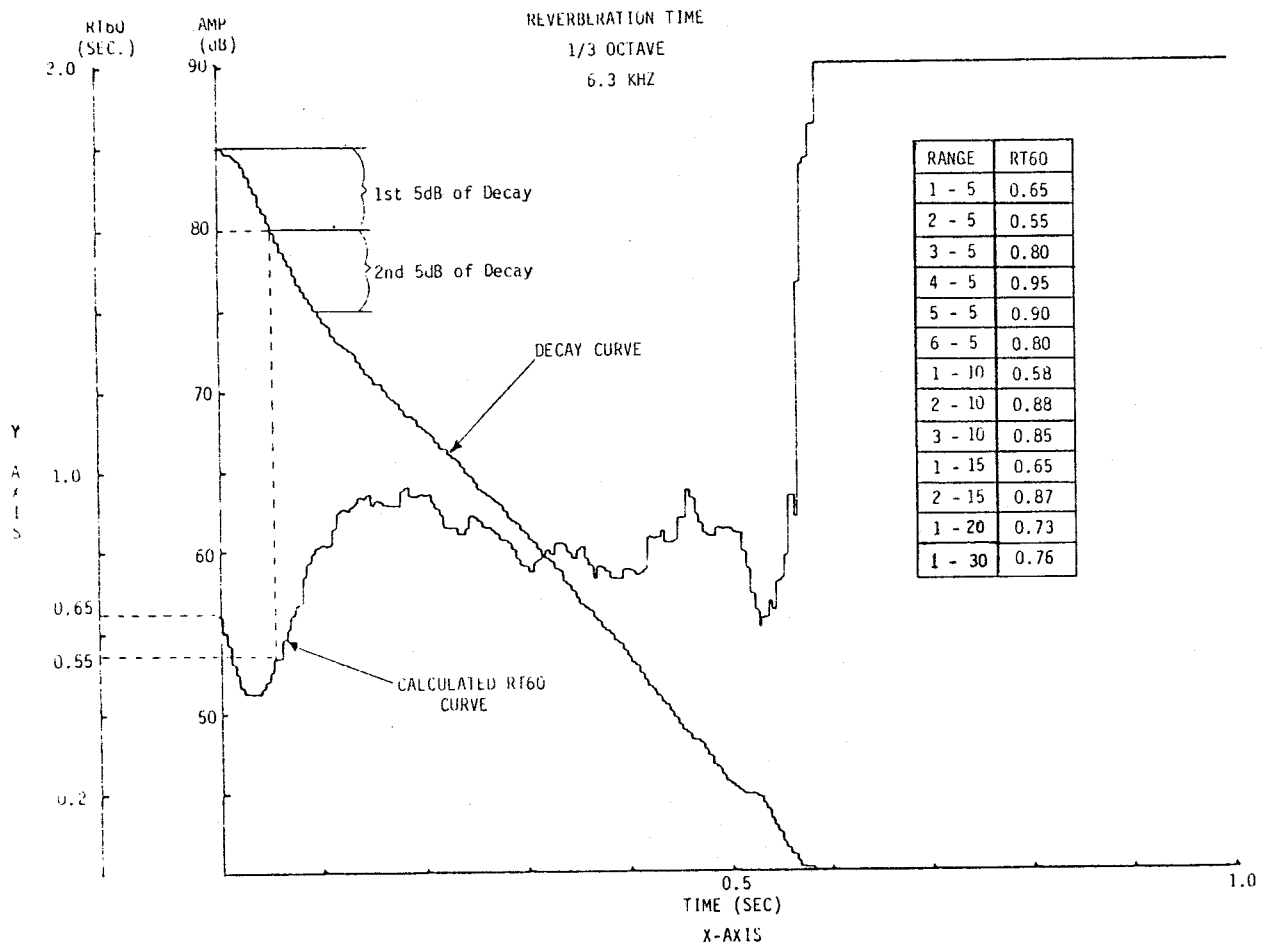

Figure 19
Labeling the plot, and interpreting the data deserves some discussion. In Figure 19 below is represented a typical RT60 plot with the axes labeled:
3. The IE-17A DATA WINDOW can give us data concerning the calculated RT60 for several segments of the decay curve. The table in Figure 19 presents the information available from the DATA WINDOW. The plotted decay and RT60 curves allow us to greatly expand the available data. If we choose any point along the decay curve, we can determine the calculated RT60 for the 5dB increment of the decay curve beginning at the point we have selected.
For example, if we choose the point on the decay curve where the decay curve intersects the Y-axis, we can determine the calculated RT60 for the 5dB increment of decay beginning at the Y-axis (the first 5dB of decay). We do that by looking straight below the point on the decay curve we have selected (in this case, down the Y-axis since the point we selected is on the Y-axis) until we intersect the calculated RT60 curve. The RT60 value at that point is 0.65 seconds, as shown in Figure 19. This agrees with the displayed information in the IE-17A DATA WINDOW - the first 5dB of decay does have a calculated RT60 value of 0.65 seconds.
If we wish, we can further verify the curves by choosing another point along the decay curve and determining the calculated RT60 value. If we choose the point along the decay curve where the second 5dB of decay begins, we can determine the value of the second 5dB of decay by moving straight below our selected point until we intersect the calculated RT60 curve. As Figure 19 demonstrates, the value of the RT60 curve at that point is 0.55 seconds. Our curves tell us that the calculated RT60 value for the second 5dB of decay is 0.55 seconds, which again agrees with the information in the DATA WINDOW.